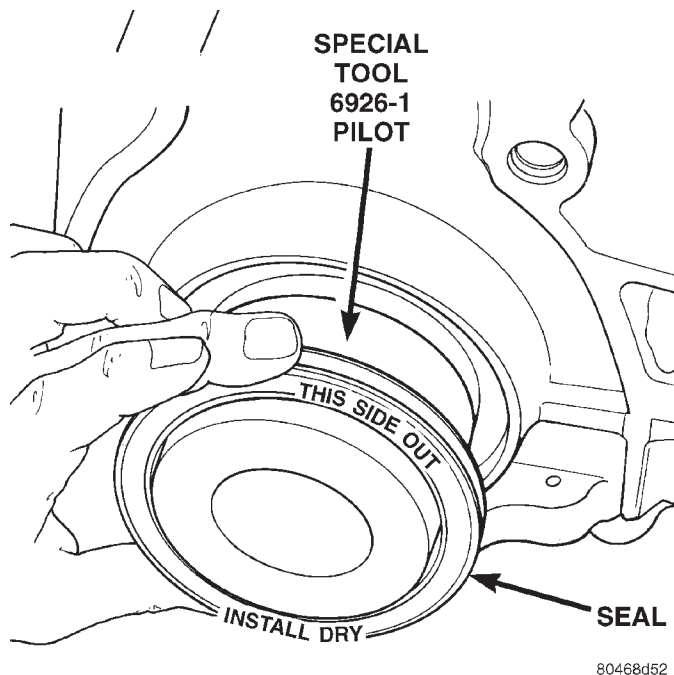

Fig. 71 Rear Crankshaft Seal and Special Tool 6926-1
(1) Place Special Tool 6926-1 on crankshaft. This is a pilot tool with a magnetic base (Fig. 71).
(2) Position seal over pilot tool. Make sure you can read the words **THIS SIDE OUT** on seal (Fig. 71). Pilot tool should remain on crankshaft during instal-